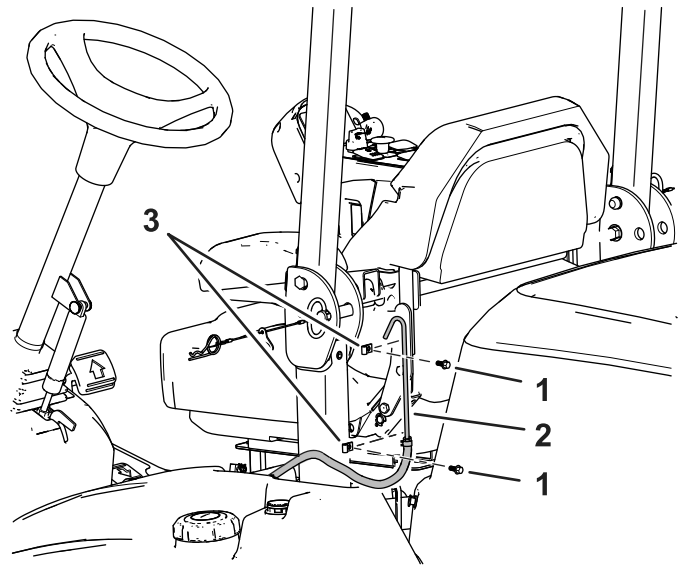

Figure 6
9. Remove the R-clamps from the roll bar securing the vent tubes (Figure 6).
11. Install the R-clamps back into the roll bar without the vent tubes (Figure 6).